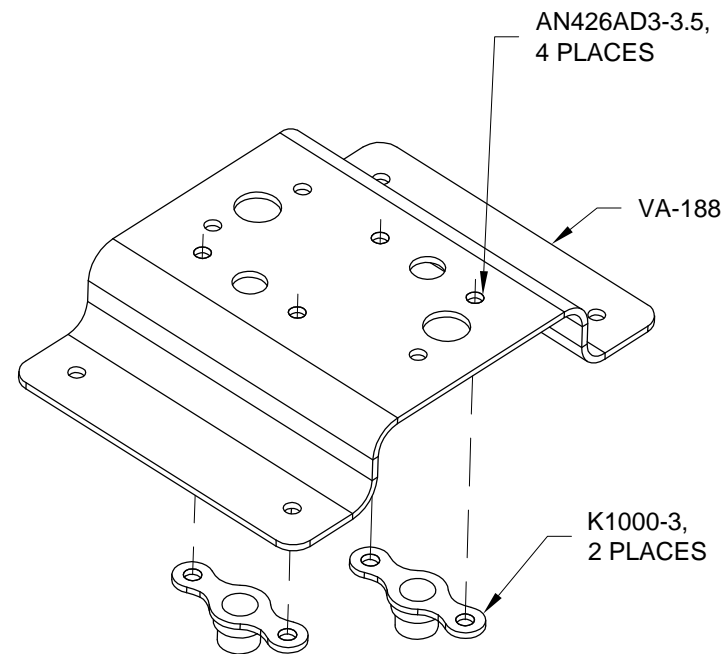
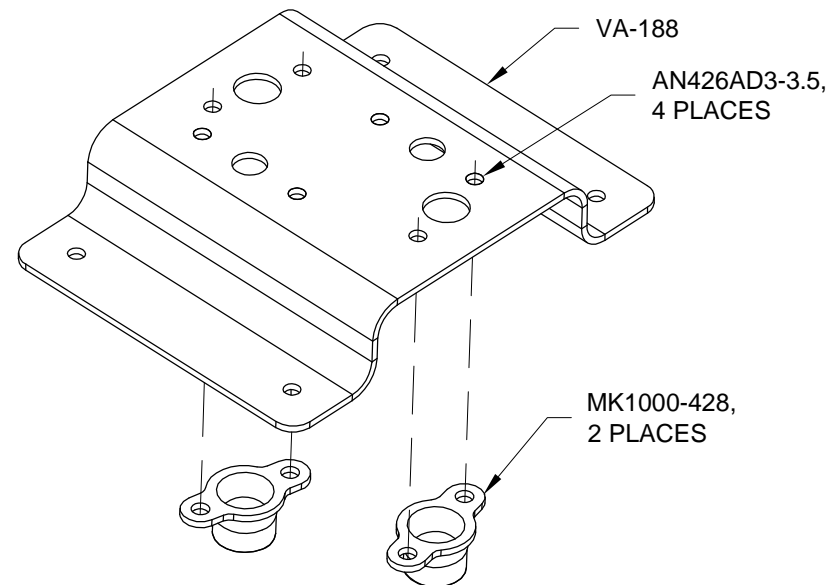

FIGURE 1: INSTALLING NUTPLATES FOR FLO-SCAN
FIGURE 2: INSTALLING NUTPLATES FOR FT-60
NOTE: The fuel flow meter provided will be one of two types. Page 28-05, Figure 1 includes a depiction of both types. Determine the fuel flow meter provided with the kit and use the applicable hardware.
Step 1: Install nutplates to the VA-188 FLO-SCAN Mount Bracket per the call-outs in Figure 1 if using a Flo-Scan Fuel Flow Meter or Figure 2 if using a FT-60 Fuel Flow Meter.
Step 3: Rivet the VA-188 FLO-SCAN Mount Bracket to the F-1272 Fwd Fuse Floor Skin per the call-outs in Figure 2.